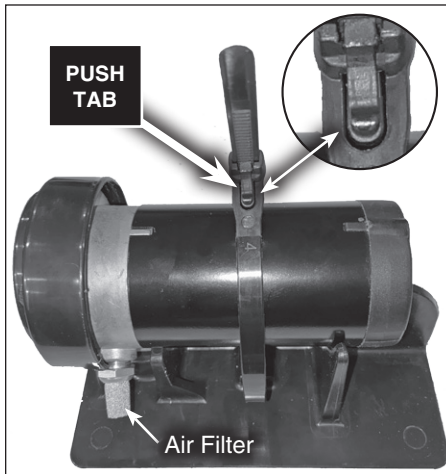

Fig. 19
21. Using the longest black plastic tie provided, insert the strap's end into the mounting bracket's retaining slot located on the base of the mounting bracket. Push the strap through the slot. Insert the strap into the locking end and pull tight. **IMPORTANT:** The plastic tie has a push tab on the locking end. When the tab is pressed, it will allow the installer to release the locking hold of the plastic tie. See Fig. 19.